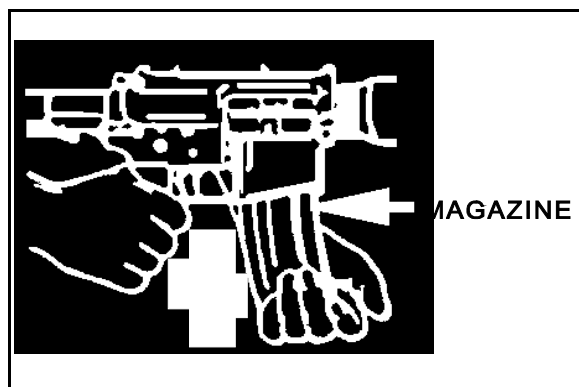

Figure 3. Magazine.
5. Tap the magazine upward to make sure that it is seated securely (Figure 3).